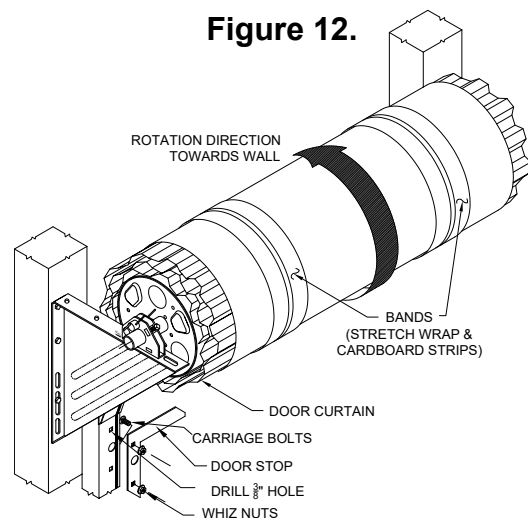

Figure 14.
7.2 Install the carriage bolts, door stops and whiz nuts in each side guide as shown in Figure 14. DO NOT tighten at this time. Both top stops will need to be in the same set of holes on each side of the door for proper operation.
8.2 Standing inside the opening looking out, place your hand on top of the door and push away from you rotating the door nest (Figure 14). Rotate the door nest two complete revolutions. Hanging on to the door bottom assembly, carefully cut the stretch wrap and feed the door curtain into the guides, moving the door stops aside to let the bottom bar move past. Pull the door bottom assembly down to waist level.